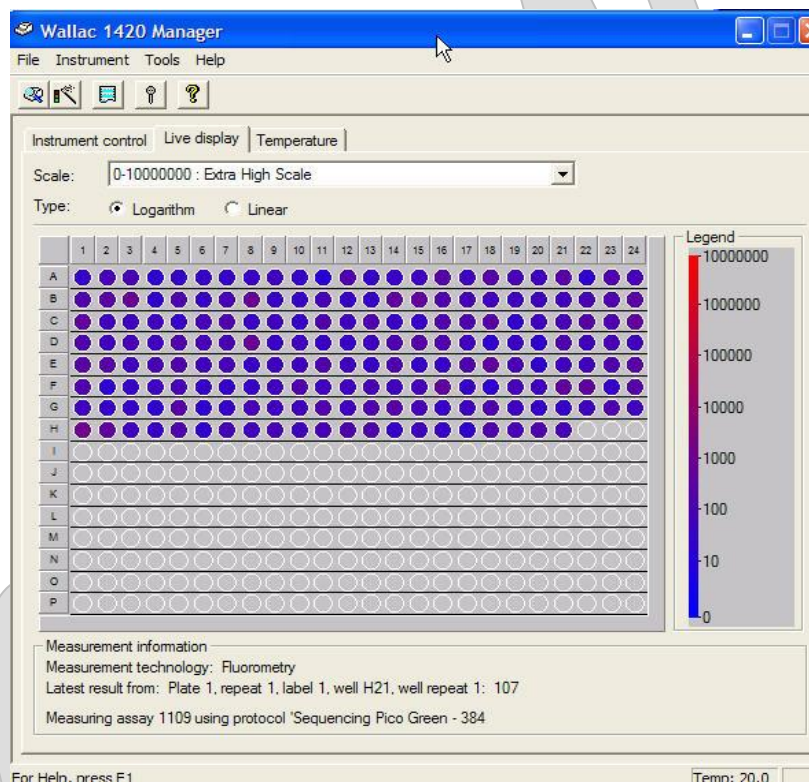

Figure 1 - Live display screen
- 7.6. The spectrophotometer will measure the fluorescence readings. You can view the progress of the plate by clicking the “Live Display” tab (Figure 1). VICTOR X3 will automatically show the live display view.